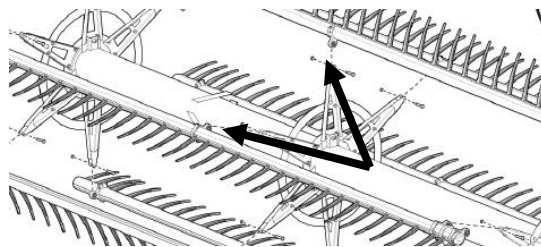

Figure 193
1. The reel bat can be replaced by removing the mounting bolt on each reel spider. This will allow the entire reel bat to be removed. Figure 193